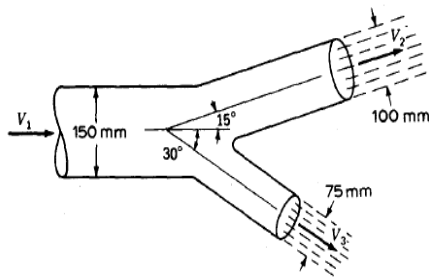

Figure 1
c) Determine the magnitude and direction of the resultant force exerted on the double nozzle of Fig.1 The axes of the pipe and both nozzles lie in the horizontal plane. Both nozzle jets have a water velocity of 12m/sec.